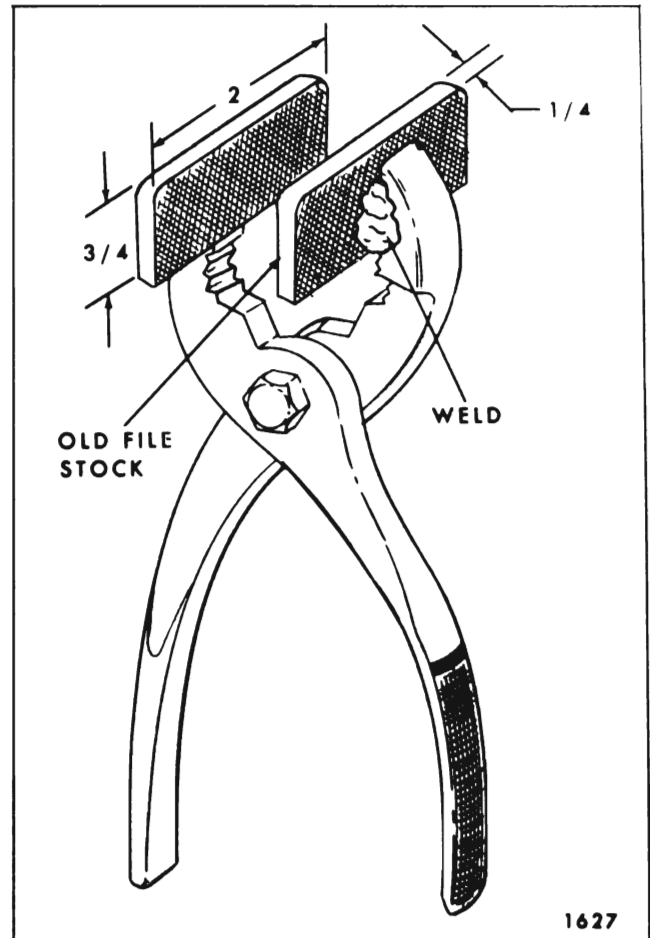
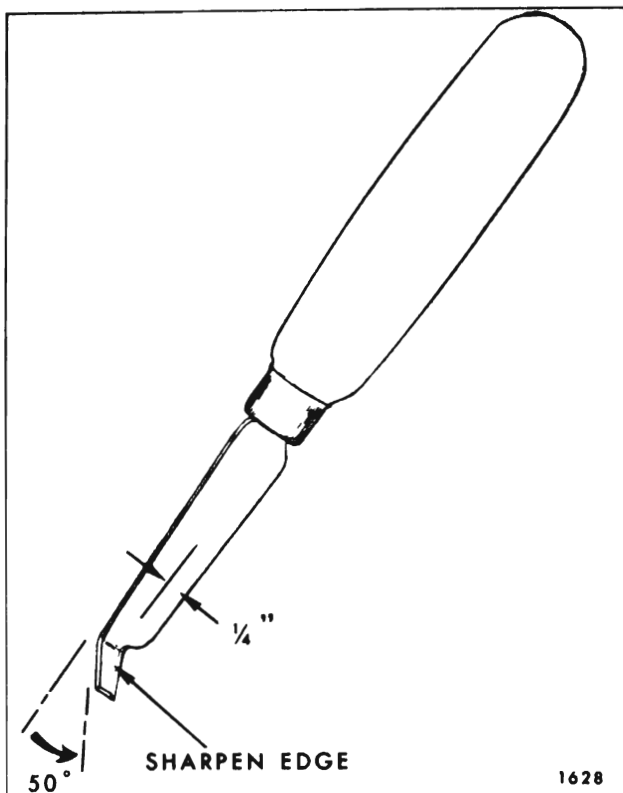
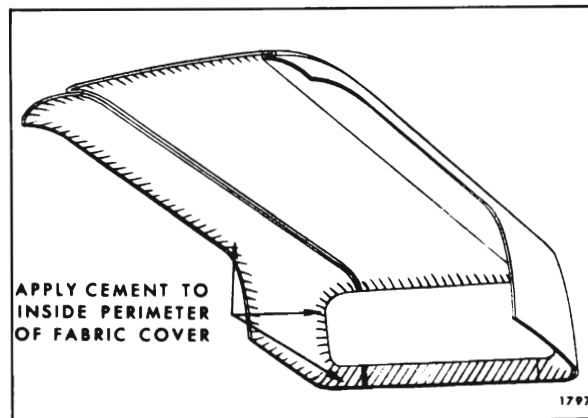
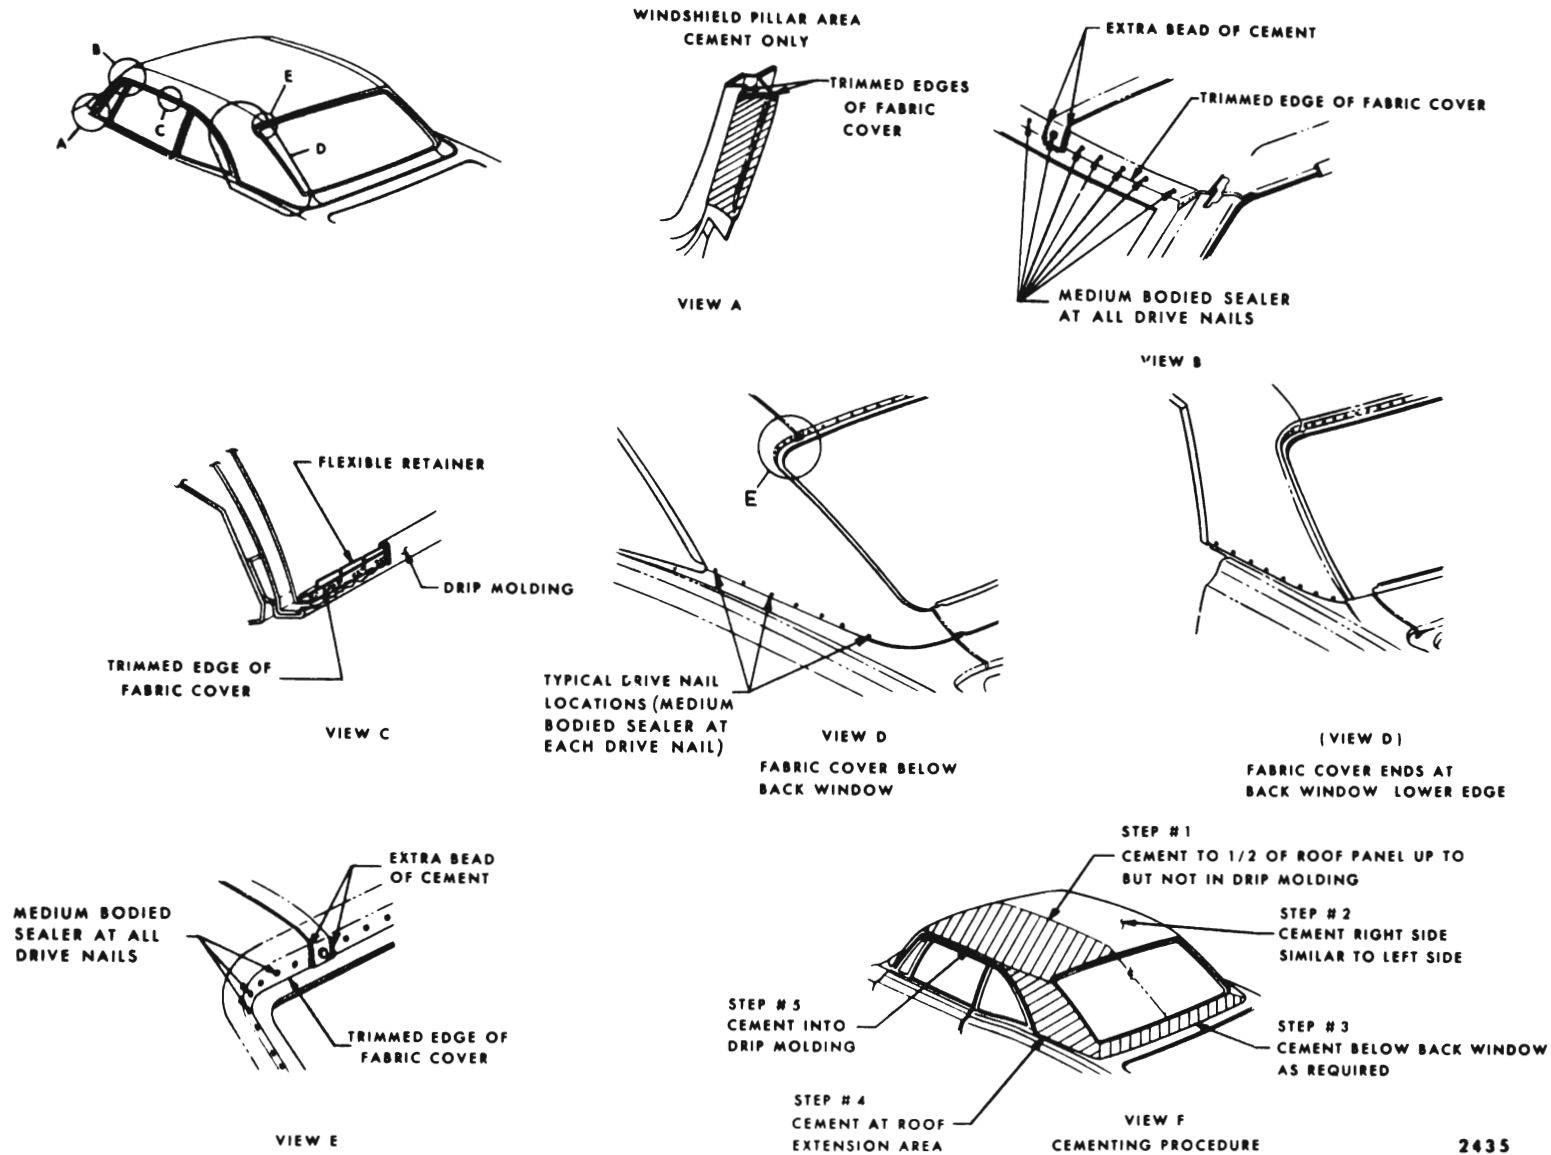

Fig. 12-1 — Fabric Cover Pliers
Fig. 12-2 — Fabric Cover Trimming Knife
Fig. 12-3 — Cementing Fabric Cover with Pad
Fig. 12-4 —Fabric Roof Cover Installation - Styles without Roof Panel Molding
Prior to and during removal and installation of fabric roof cover, review Figure 12-1, 12-2, 12-3, 12-4 and 12-5.
Figures 12-1 and 12-2 are applicable for all styles. Figure 12-4 is to be referred to when working on styles not equipped with roof panel moldings. Figure 12-3 is applicable only to styles equipped with a pad. Figure 12-5 should be referred to when working on styles equipped with roof panel moldings.
4. Remove flexible retainers securing fabric cover inside right and left drip moldings. (View "C", Fig. 12-4). The retainers may be removed by inserting tip of screwdriver or similar tool under retainer at front of drip molding. While exerting slight outward force on drip molding with pliers, disengage fingers of retainer from drip molding flange. Do not damage drip molding. New retainers are to be used when replacing fabric cover.
NOTE: Where new cover is installed at temperatures below 72°, fabricated pliers as shown in Figure 12-1 will aid in removing wrinkles.
13. Using hammer and flat end punch install drive nails at top of windshield and back window openings (View "B" and "E" Figure 12-4 show typical drive nail installation). Drive nails are not to be used at weld-on studs on roof panel on styles equipped with roof panel moldings.
21. On styles equipped with roof panel moldings, trim fabric cover along roof panel molding retainers (View "B", Fig. 12-5). Trimming tool (J-21092) or suitable small knife may be used to trim cover (See Figure 12-2). Do Not Damage Paint Finish. At front corners, raise cemented edge of cover and using scissors or sharp knife cut radius so roof panel moldings cover cut edge. Recement fabric cover to roof panel (See View "A", Fig. 12-5). Remove masking tape from roof panel.
22. On all styles, trim material along belt line at roof extension area. On styles where fabric cover extends below back window, trim cover along rear end belt molding area. If it is necessary to trim material from outer edge of fabric cover around windshield or back window opening, raise cemented edge and cut as required. Edge of fabric cover should exist as shown in View "B" and "E", Fig. 12-4. Do Not Damage Paint Finish.
- b. Using fabric cover trimming tool (J-21092), or suitable small knife, trim fabric cover just under lip of roof drip molding (View "C", Fig. 12-4). A tool may be fabricated to trim material along side roof rail drip moldings as illustrated in Figure 12-2.
insert retainer into drip molding so that outside edge is under drip molding flange (See View "C", Fig. 12-4). Use fibre or wood block with slight concave end to push retainer downward. **DO NOT DAMAGE RETAINER.**
Prior to and during removal and installation of fabric roof cover, review Fig. 12-1, 12-2 and 12-6.